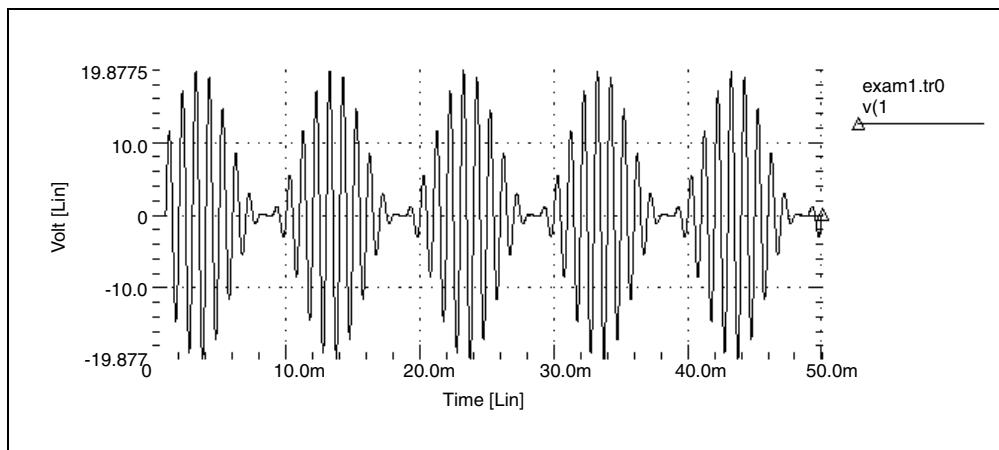
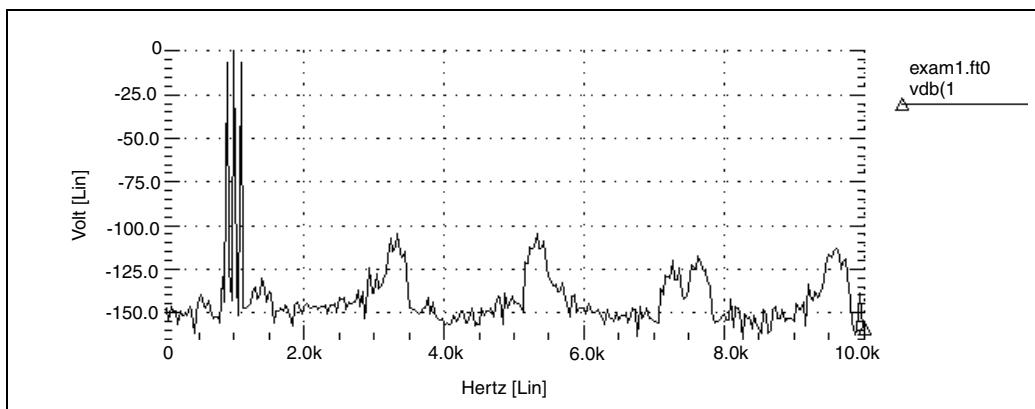

Figure 60 AM Modulation
Figure 61 AM Modulation Spectrum
Figure 60 and Figure 61 on page 431 display the results.
- Figure 60 shows the time-domain curve for node 1.
- Figure 61 shows the frequency-domain components, for the magnitude of node 1.